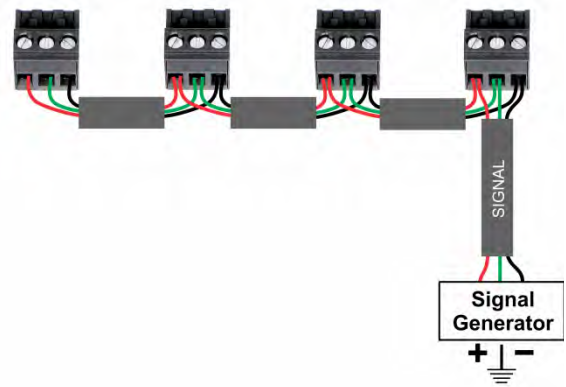

Figure 4.11 – Wiring the Paralleled Input Wire
3. Use the jump wires included in the Parallel Wiring Kit and the Removable Barrier Block connectors that ship with each amplifier to create a paralleled input signal wire as shown in **Figure 4.11**. Wire one input connector for each amplifier in your system.